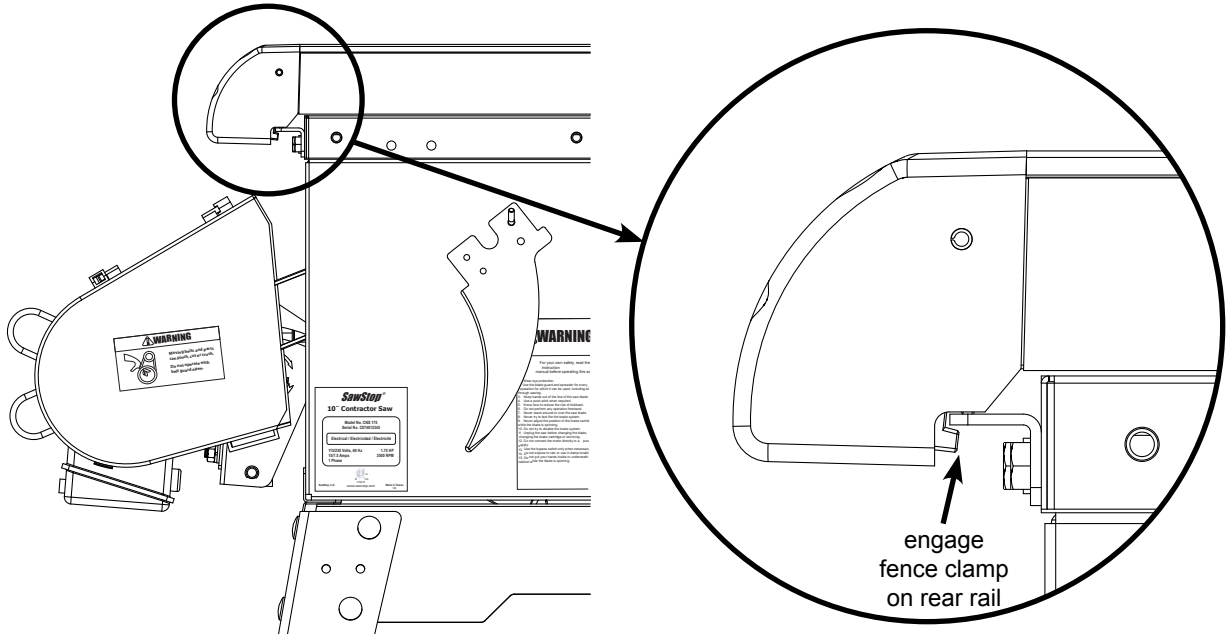

Fig. 13
13. Position the fence on the table and to the right of the blade. Make sure the clamp at the rear of the fence engages the rear rail (see Fig. 13), and that the front of the fence engages the front rail.